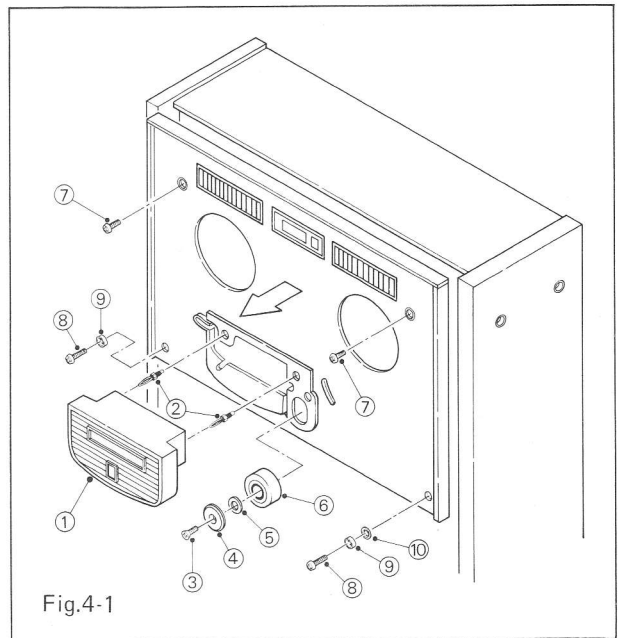

Fig.4-1
1. Referring to Fig. 4-1, withdraw head cover ① and remove head cover posts ② by turning them counterclockwise with pliers or box driver.
2. Holding pinch roller ⑥ still, turn counterclockwise screw ③ securing pinch roller dressing washer ④ and withdraw the screw together with the dressing washer. Then extract nylon washer ⑤ and the pinch roller from the pinch roller shaft.